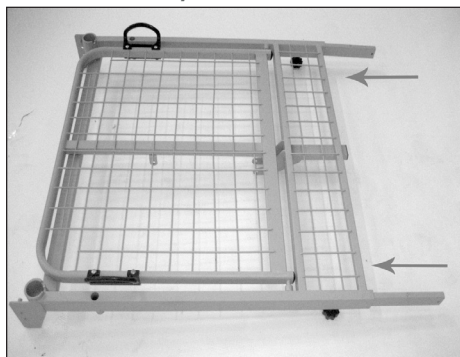

Fig.2
1. Insert the rectangular tubes into the headrest frame and push them up to the stop (Fig.2)